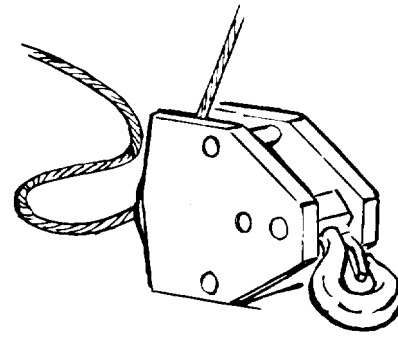
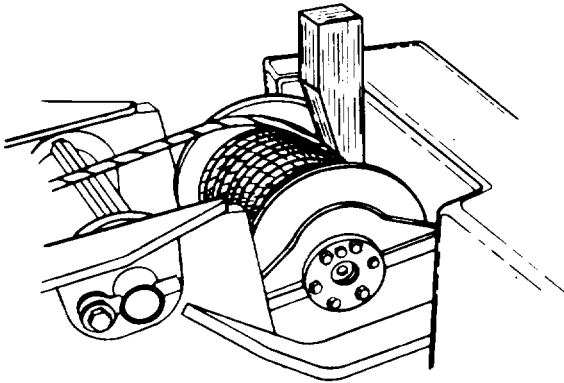

Figure 5-5. Hook Block
Figure 5-6. Wedge Block in Winch Drum
- Lower hook block to ground, positioning it on its side (Figure 5-5). Maintain tension on cable and continue to pay out 3 ft (914 mm) of cable. Insert wedge block between winch cable and winch brace at counterweight side (Figure 5-6).